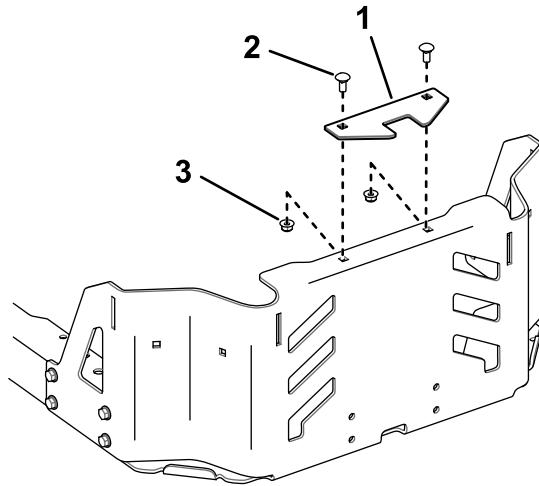

Figure 6
1. Install the stabilizer bracket to the engine guard using 2 carriage bolts (5/16 x 3/4 inch) and 2 locknuts (5/16 inch) as shown in Figure 6.